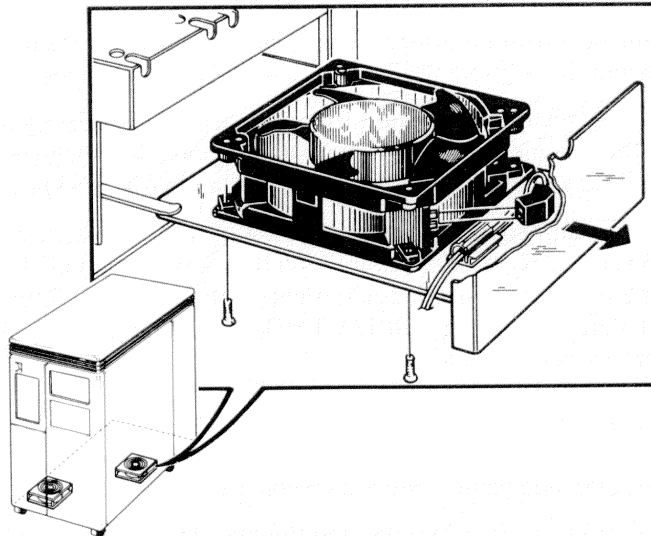

Figure 6-15 Card Cage Fan Removal
3. Slide the tray below the card cage partially out. (Figure 6-15)